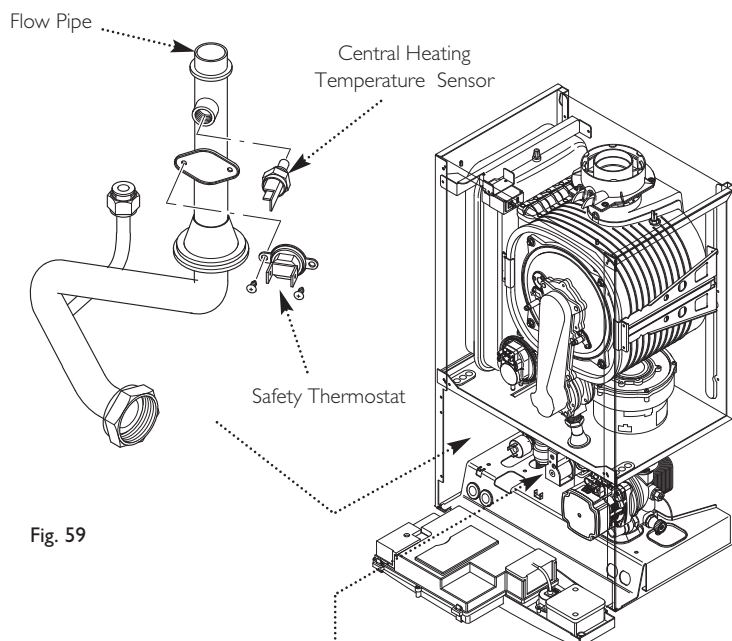

Fig. 59
13.11 Central Heating Temperature Sensor (NTC) (Fig. 59)
13.12 Safety Thermostat (Fig. 59)